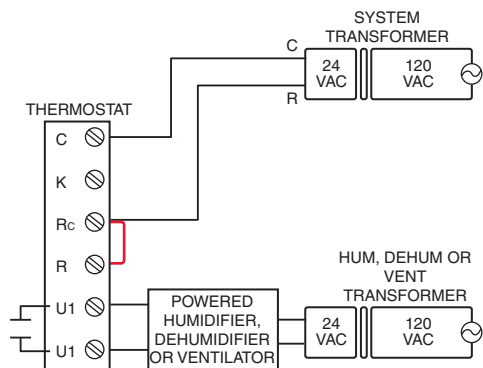

Fig. 225. Wiring a powered humidifier, dehumidifier, or ventilator.
All wiring must comply with local electrical codes and ordinances. See Fig. 225–232.
6. See Fig. 225–232 for typical wiring hookups.